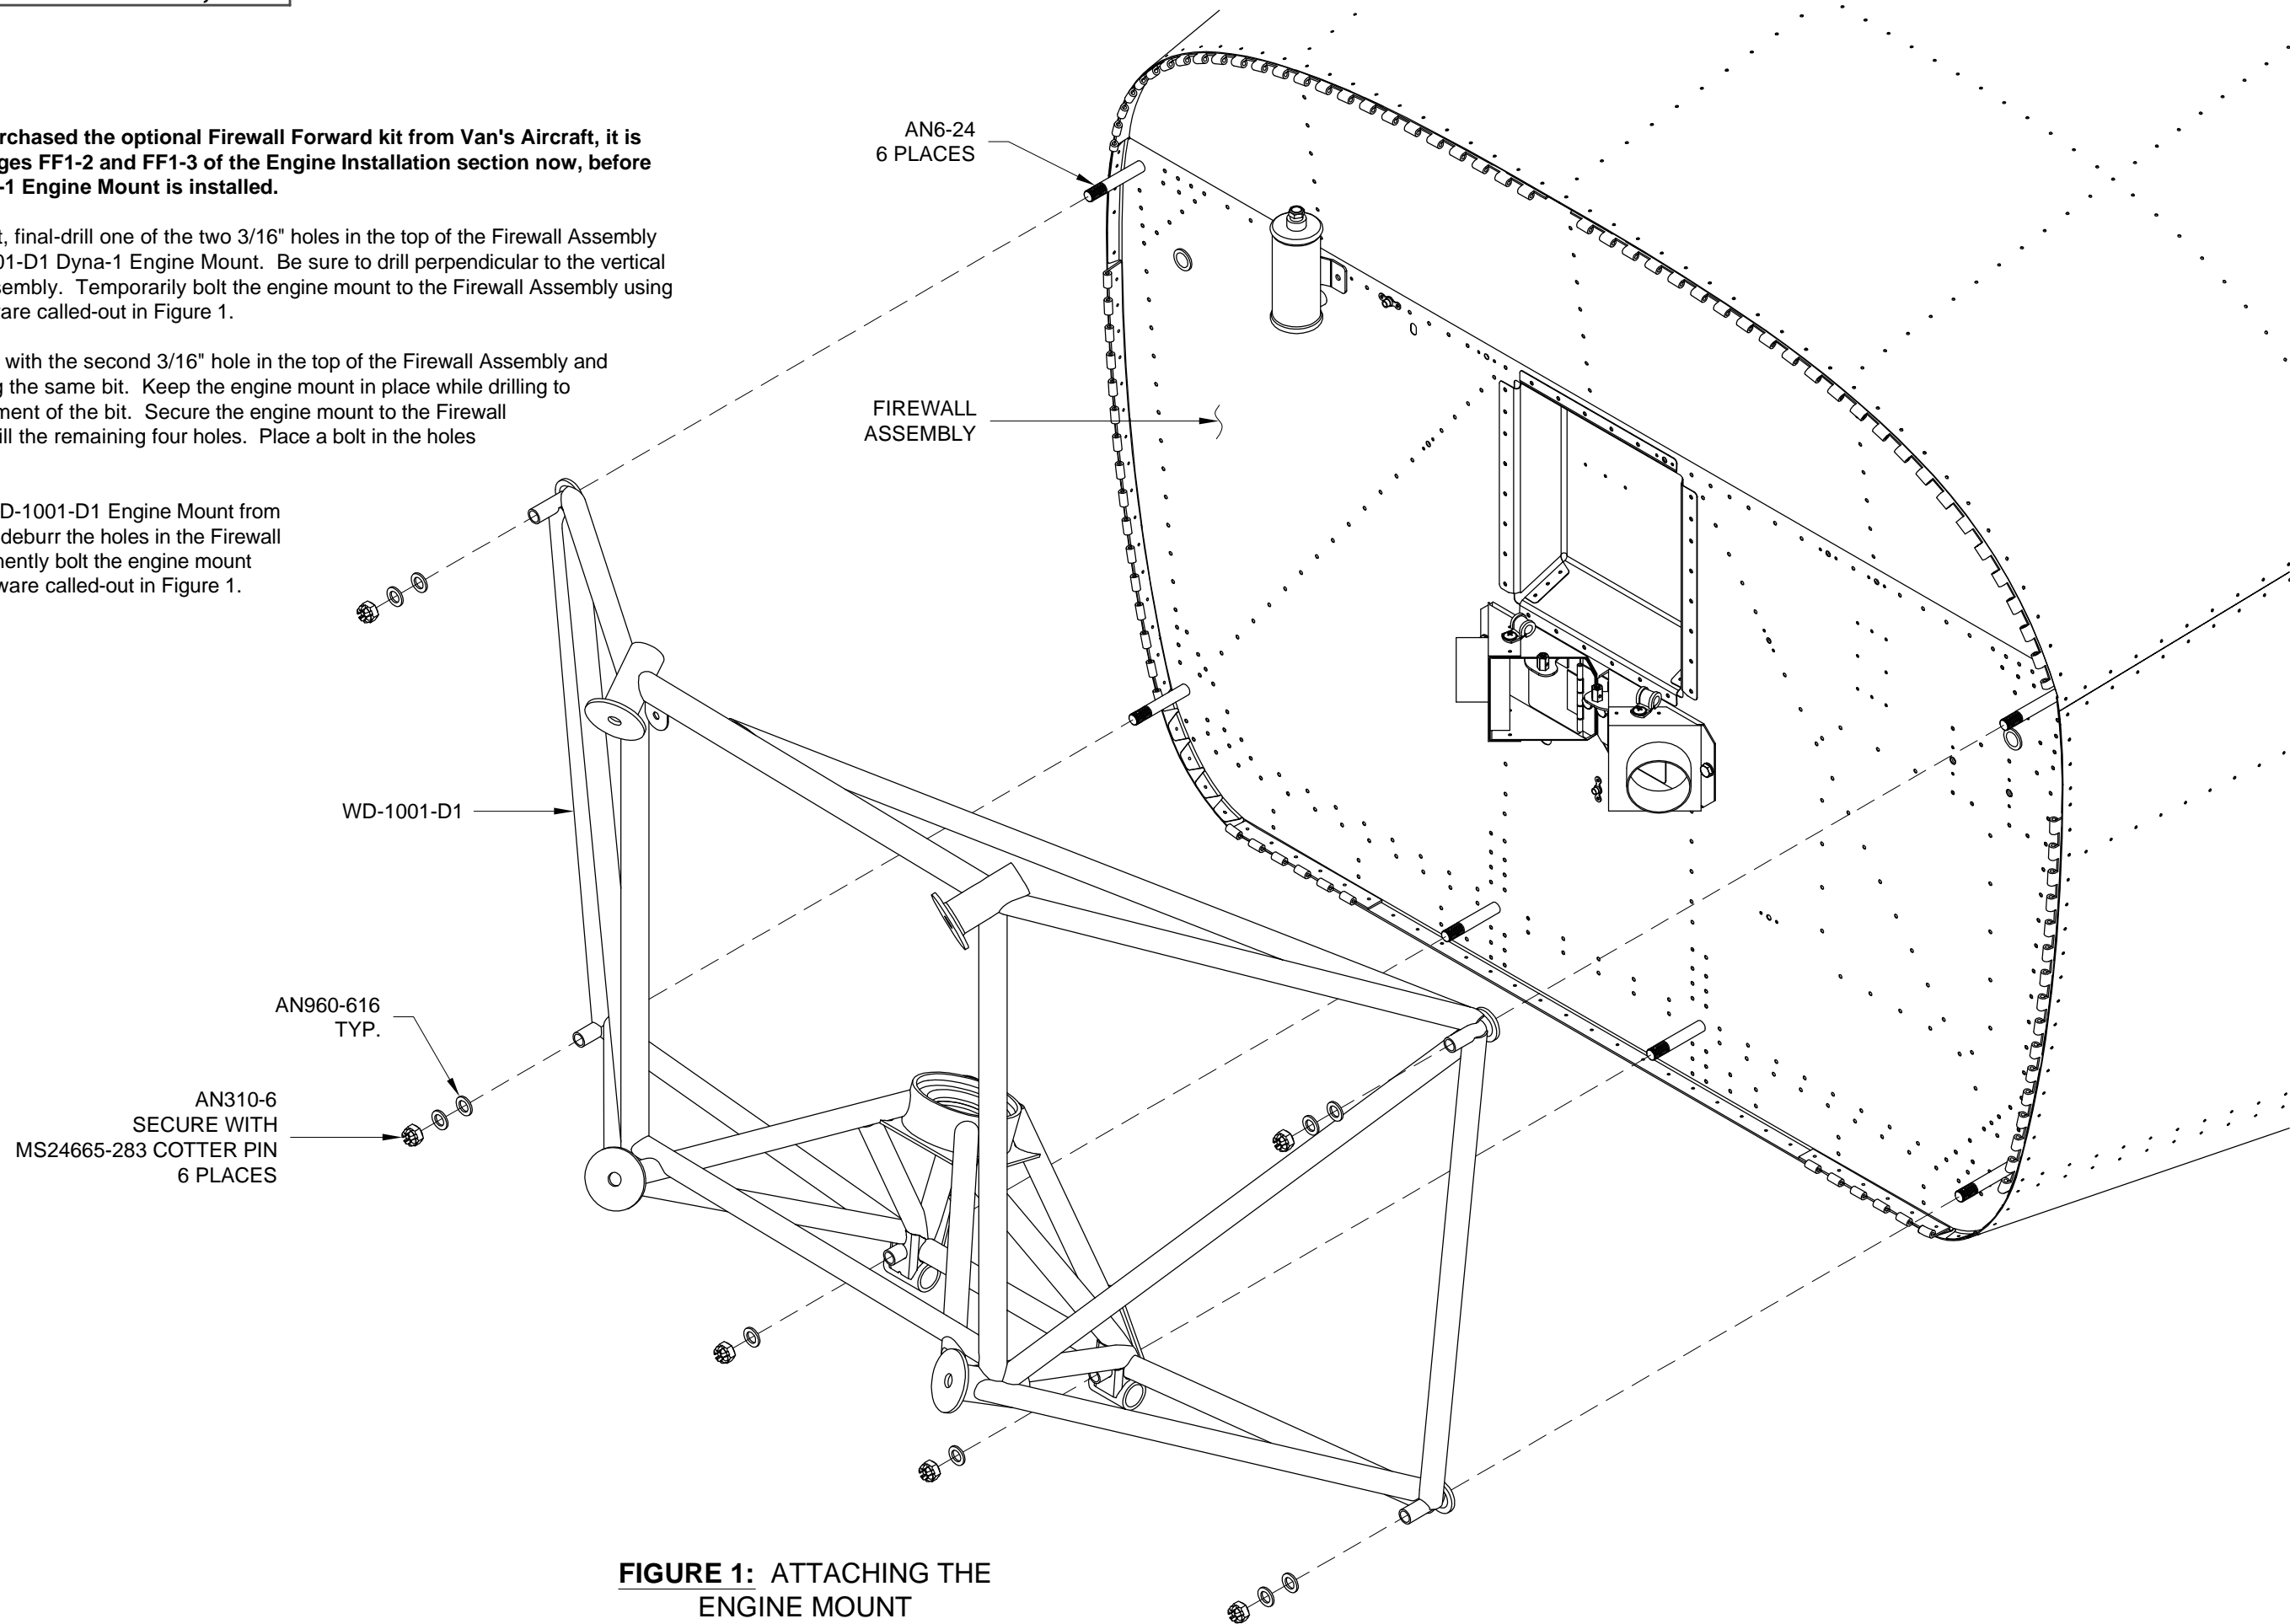

FIGURE 1: ATTACHING THE ENGINE MOUNT
Step 1: Using a 3/8" bit, final-drill one of the two 3/16" holes in the top of the Firewall Assembly common to the WD-1001-D1 Dyna-1 Engine Mount. Be sure to drill perpendicular to the vertical face of the Firewall Assembly. Temporarily bolt the engine mount to the Firewall Assembly using this hole and the hardware called-out in Figure 1.
Step 2: Remove the WD-1001-D1 Engine Mount from the Firewall Assembly, deburr the holes in the Firewall Assembly, then permanently bolt the engine mount in place using the hardware called-out in Figure 1.